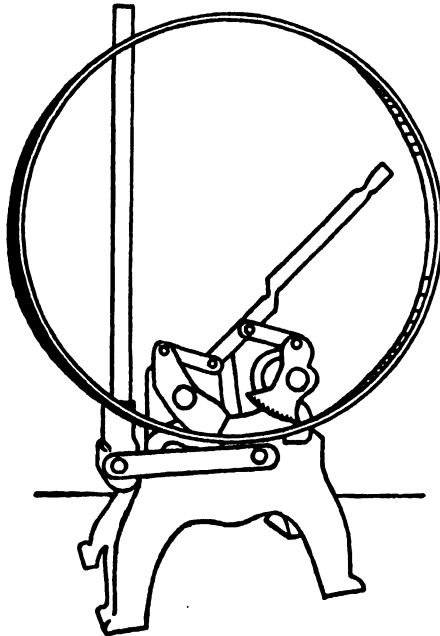

FIG. 65
13. Heat the tire and place it in the tire shrinker. Fig. 65. Clamp and shrink, meanwhile hammering down any kinks that may be forming. Remove from the shrinker, place on the anvil, first on the edge then flatwise, hammering as you do so, until the tire is smooth. Run or measure the tire to see if it has enough draw. Repeat these operations until the pointer of the tire measuring wheel falls from $\frac{1}{8}$ " to $\frac{5}{16}$ " to the right of the pencil mark. The amount of the draw will depend upon the thickness of the tire and the condition